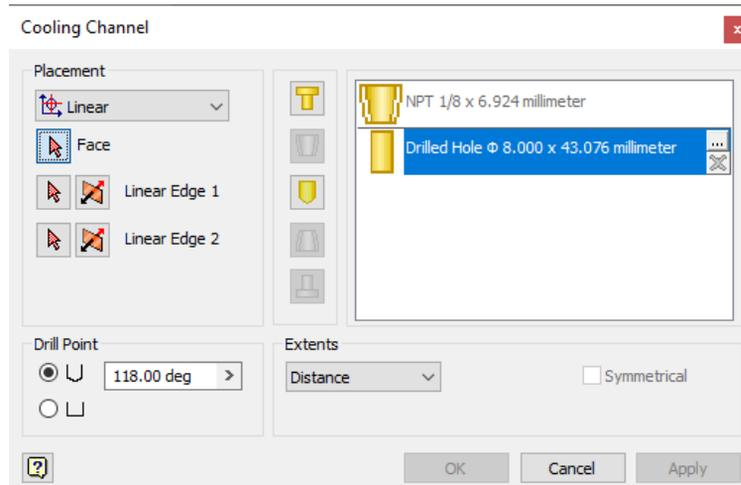

Figure 19-70 The Cooling Channel dialog box
1. Choose the **Cooling Channel** tool from the **Runners and Channels** panel in the **Mold Layout** tab of the **Ribbon**; the **Cooling Channel** dialog box is displayed, refer to Figure 19-70 and you are prompted to select a face for specifying the position of the cooling channel.